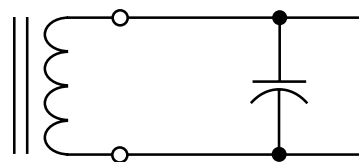

Figure 2. LC Circuit
For optimum performance, the transponder coil is used in a parallel LC circuit as shown in figure 2. Adding a capacitor to the circuit maximizes the read distance. The LC circuit is designed to resonate at the operating frequency of the reader. To calculate the value of the capacitor, use the following equation: **Capacitance (C) = 1 / (Inductance L x (2π x Frequency f))2**